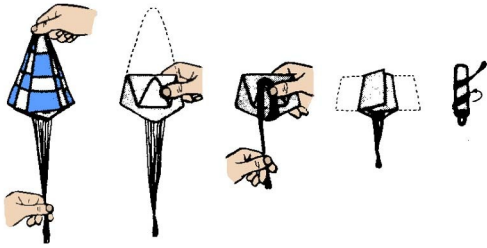

Figure 11
- **Step 63** Fold or roll the parachute in a manner similar to the illustration in Fig. 11 above. You may find that a light dusting of talcum powder will help the parachute open easier, especially in cold weather, or cold climates. Do not make the parachute bundle too tight.